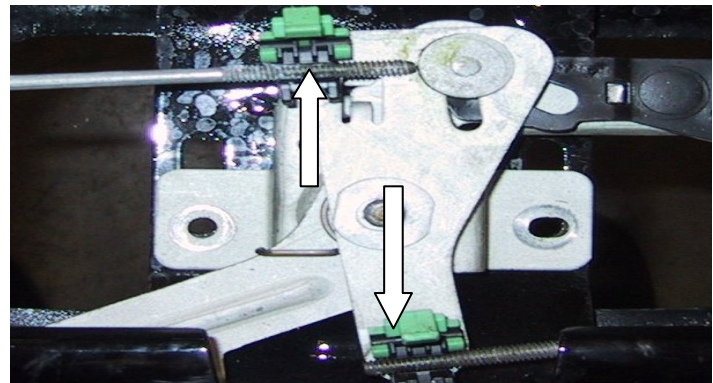

Fig. B-3
- ➔ **STEP 4:** Loosen green clips from handle connecting rods and remove connecting rods from handle assembly. (see fig. B-3)
- ➔ **Step 2:** Connect the connecting rods to the two (2) clips provided on the back of your replacement handle. (see fig B-3 for reference)
- ➔ **Step 3:** Secure the handle with the two (2) 8mm retaining nuts provided with the replacement handle: